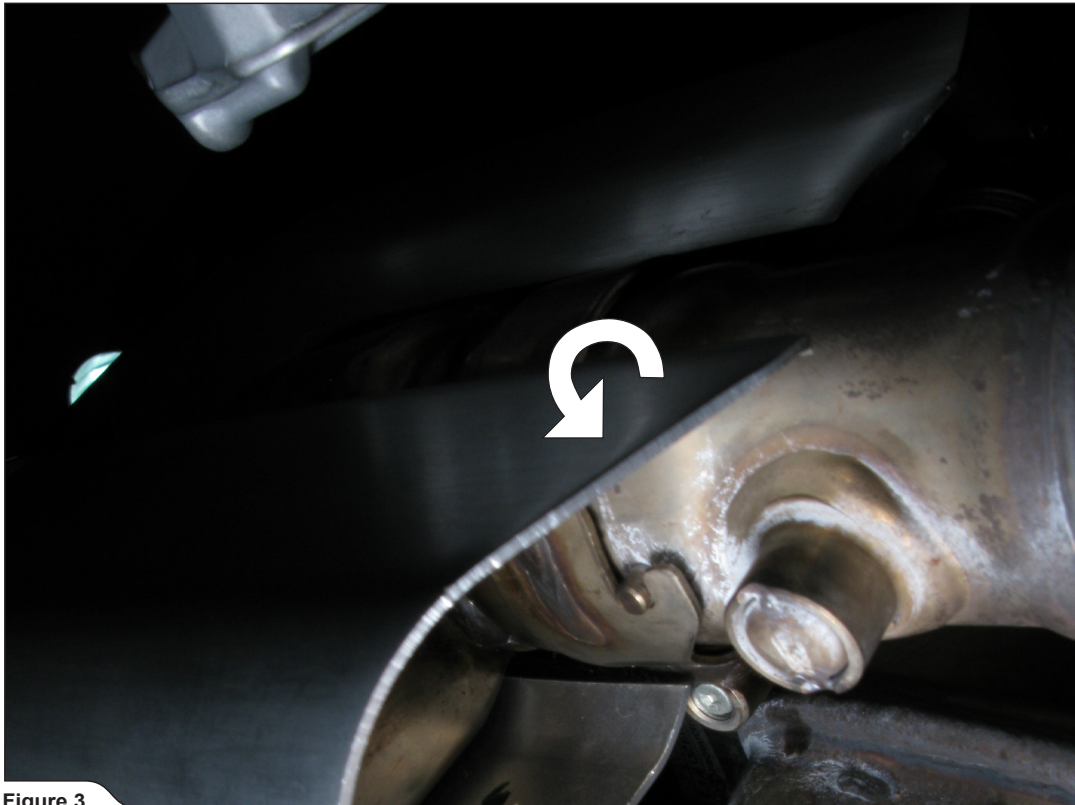

Figure 3
4. Rotate the muffler as shown, and pull it off the collector (**Figure 3, 4**).